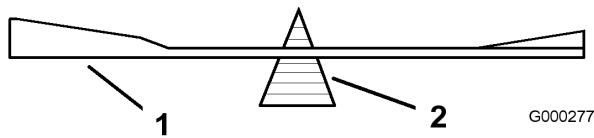

Figure 52
2. Check the balance of the blade by putting it on a blade balancer (Figure 52). If the blade stays in a horizontal position, the blade is balanced and can be used. If the blade is not balanced, file some metal off
the end of the sail area only (Figure 52). Repeat this procedure until the blade is balanced.